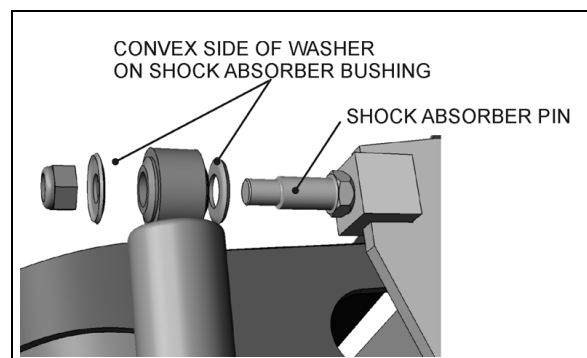

FIGURE 4: TYPICAL SHOCK ABSORBER SETUP 16009
1. Remove nuts and washers from shock absorbers on upper and lower mounting pins, taking care to identify the inner and outer washers to ease reinstallation. Refer to figure 4 for details.
3. Place the inner washers (with washer convex side facing the shock absorber rubber bushing) on each shock absorber pin (Fig. 4).